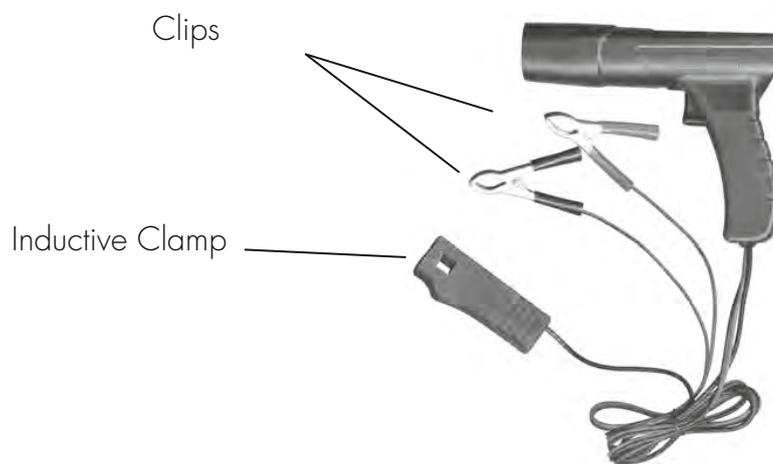

Figure 1
**INSTRUCTION****Figure 1****REPÈRES DE CALAGE DE L'ALLUMAGE**